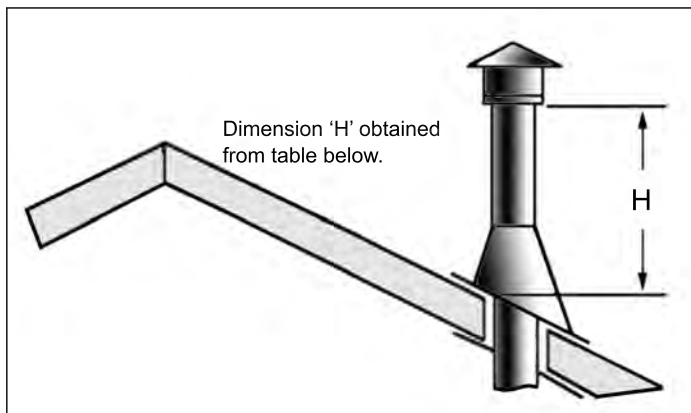

Figure 35: Height of Vertical Termination; Reference Table 8.
- STEP 8.** Continue to add pipe sections until the height of the vent cap meets the minimum code requirements. Refer to Figure 35 and Table 8. Note that for steep roof pitches, the vent height must be increased. In high wind conditions, nearby trees, adjoining roof lines, steep pitched roofs, and other similar factors can result in poor draft, or down drafting. In these cases, increasing the vent height may solve the problem.
Table 8: Minimum 'H' for Figure 35.